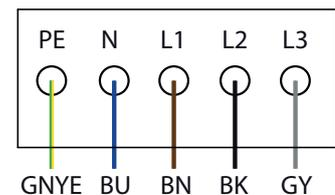

Figure 14: AC connection terminals
6. Connect the cables in accordance with the label on the PCB terminals (Figure 14 on page 18).